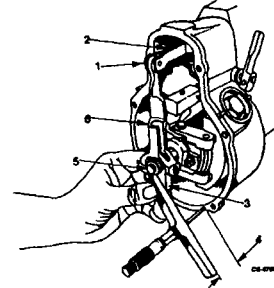

Figure 10. Measuring Slider-to-Housing Distance
6. Measure "slider-to-housing" distance (Figure 10). This is made by measuring from back of slider to governor